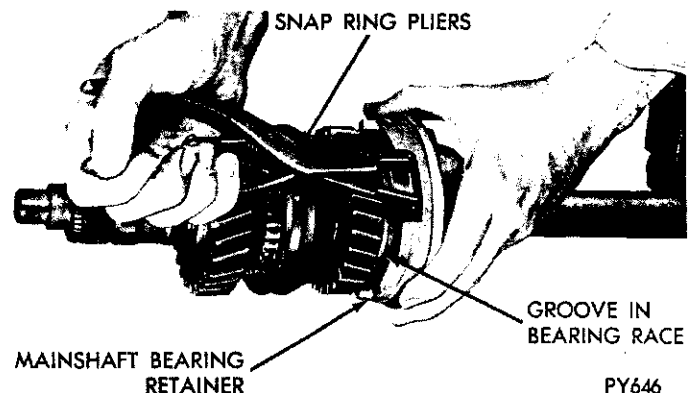

Fig. 17—Snap Ring Spread, to Remove or Install Retainer on Mainshaft Bearing
- (4) Spread snap ring in mainshaft bearing retainer to disengage it from bearing groove and slide retainer off the bearing race (Fig. 17).
ring seats in bearing groove (Fig. 17).